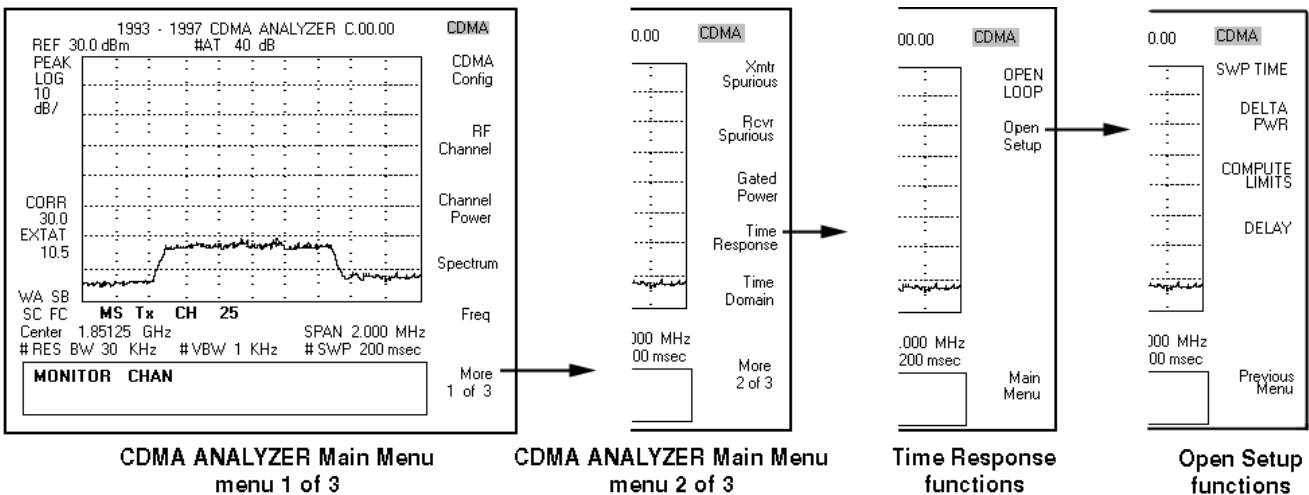

Figure 16. Time Response Function
1. Press the **More 1 of 3** softkey on the CDMA ANALYZER main menu to go to menu 2 of 3 (see Figure 16).
2. Press the **Time Response** softkey to access the time response test functions (see Figure 16).
3. Press the **Open Setup** softkey of the Time Response functions to configure the open loop test setup functions (see Figure 16):